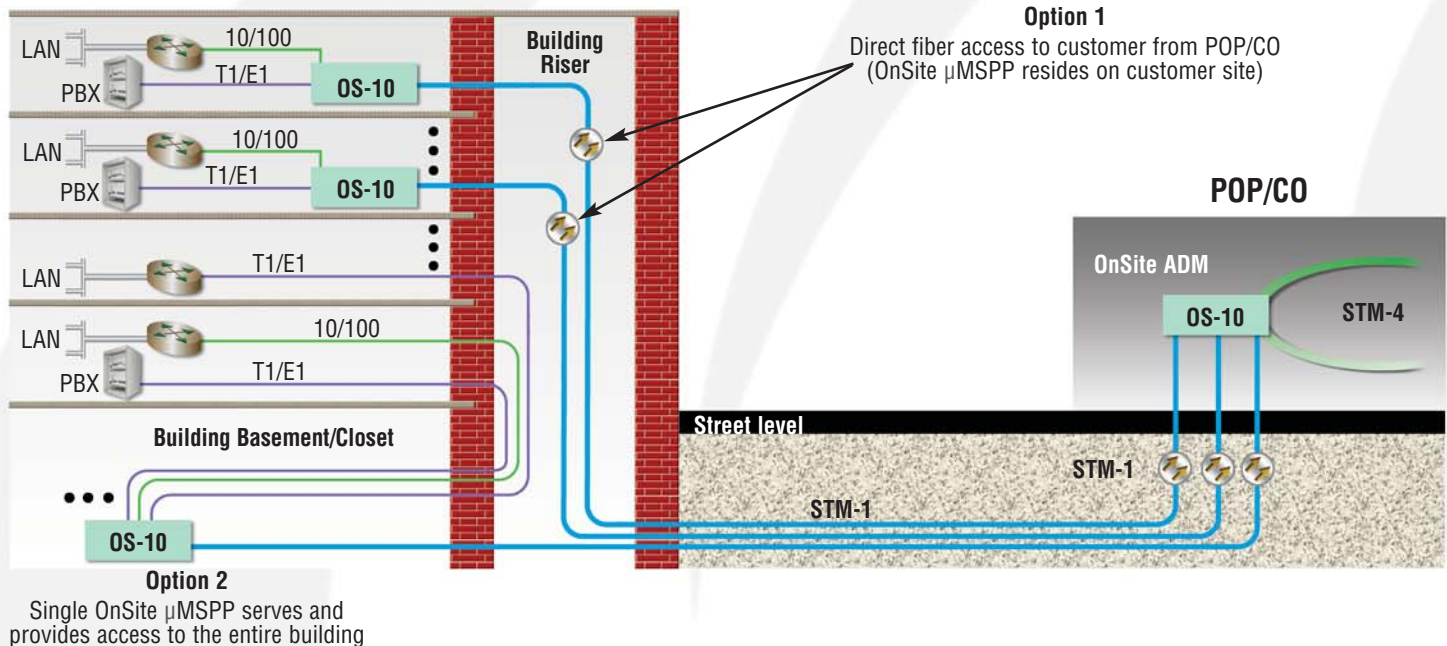

Figure 13. Deployment options 1 and 2: In-building connectivity using the OS-10
Depending on customer needs and available fiber, you can place the OS-10 in strategic locations within a building, as shown in figure 13.
- **Option 1:** The OS-10 is located directly on the floor where the customer resides. This option provides direct fiber access to the customer from the carrier or service providers' point-of-presence (PO) or central office (CO). Customer E1 or Ethernet traffic is directly connected to the OS-10 for reliable transport over the dedicated fiber optic SDH link. Government and financial institutions with strict security requirements would benefit from this configuration. For this application, the OS1052 platform meets the required port density and price point for cost-effective deployment of E1 and Ethernet services over high-performance SDH links.
- **Option 3:** All OS-10s within the building are interconnected to form an intra-building ring, as shown in Figure 13. For maximum reliability and protection, you can connect the OnSite ring elements using fiber routes along different riser conduits, if the building structure permits. All platforms in the Patton OnSite Series support interconnection using ring, linear and point-to-point topologies.